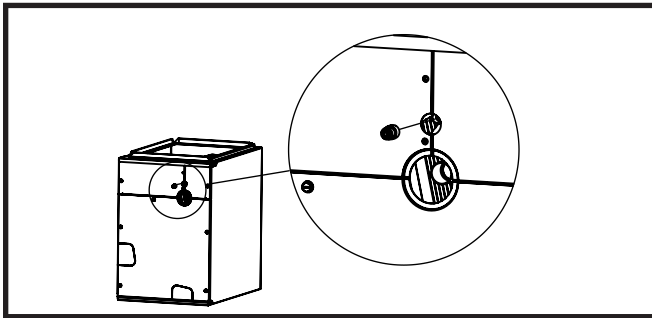

Figure 5. Suction & Liquid Line Locations
2. Remove the cap (Figure 5) from the end of the liquid line.